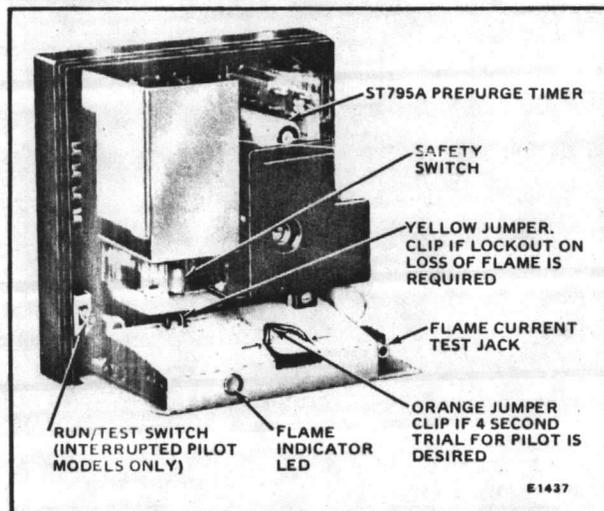

FIG. 9—LOCATION OF R7795 JUMPERS.
4. Install the ST795A Purge Timer into its slot (see Fig. 9).
1. 4 second pilot flame trial (clip orange jumper, see Fig. 9).
2. Lockout on loss of flame (clip yellow jumper wire, see Fig. 9).
(Figs. 9 and 10)
This will prevent shutdowns due to poor flame signal. Use the 196146 Meter Connector and a W136A meter (or equivalent). Connect the RED plug-in tip to the RED (+) meter lead and the BLACK plug-in tip to the BLACK (-) meter lead. Insert the gray plug into the amplifier flame current jack on the R7795 amplifier board (see Fig. 9). When reading the flame current, ensure that 2 important criteria are met: